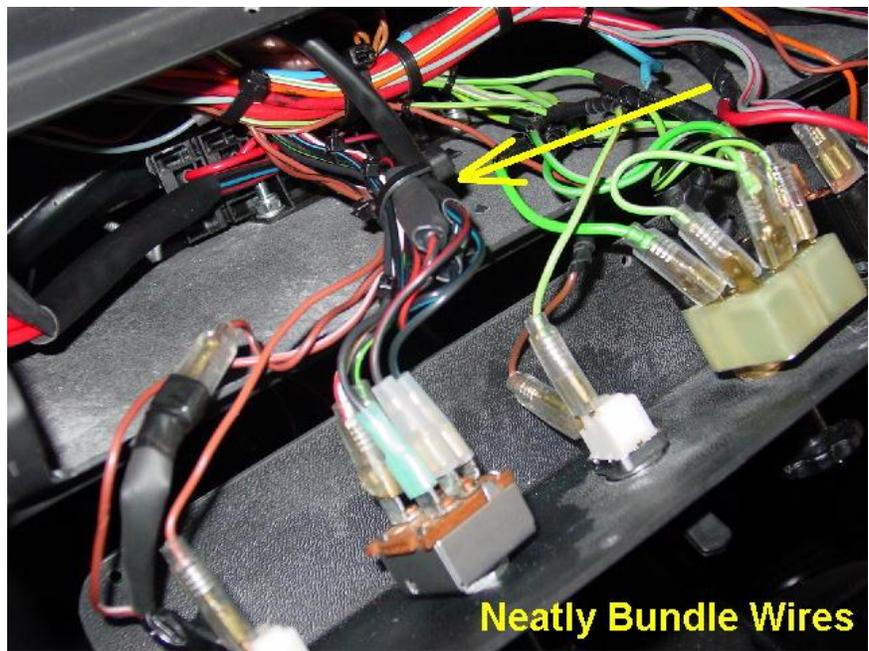

Fig. 17
18. Neatly zip-tie the wires tighter as shown in figure 17.